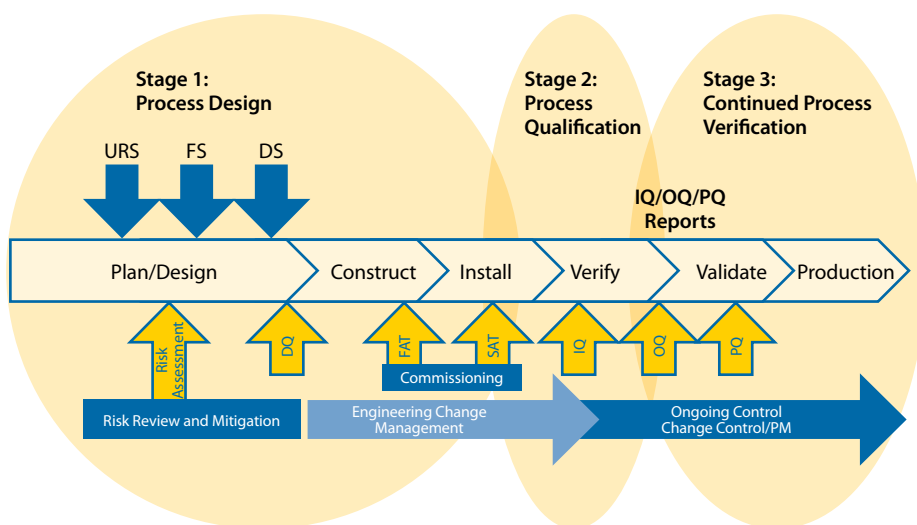

Figure 1 Lifecycle Approach Chart
Figure 1 depicts the lifecycle approach as it relates to traditional markers for sourcing an automated washer for cleaning parts using a validated cleaning process (6).